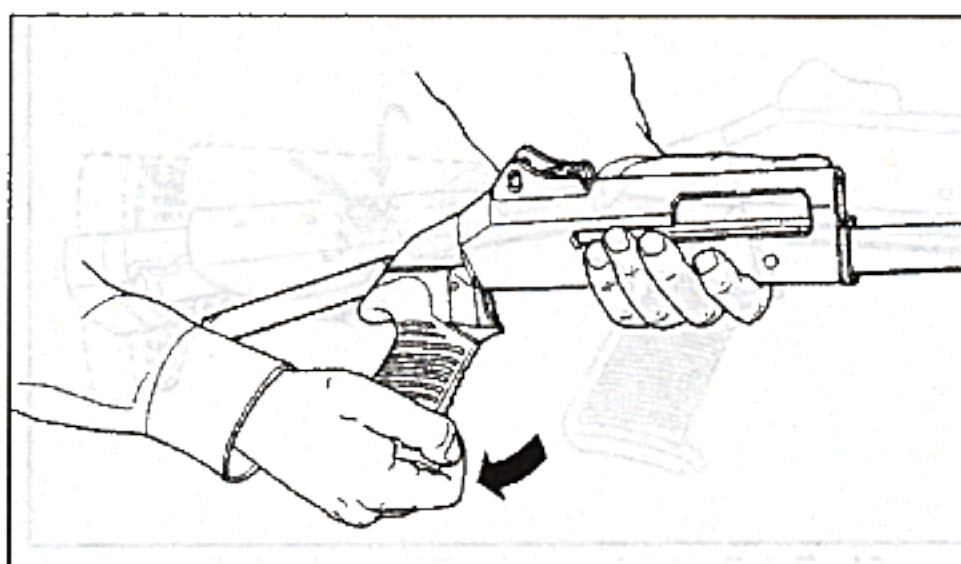

Figure 24. Removing detachable pistol grip
- C. Unscrew the pistol grip in a counter-clockwise direction until free. Remove the pistol grip to the rear of the recoil tube (**Figure 24**).